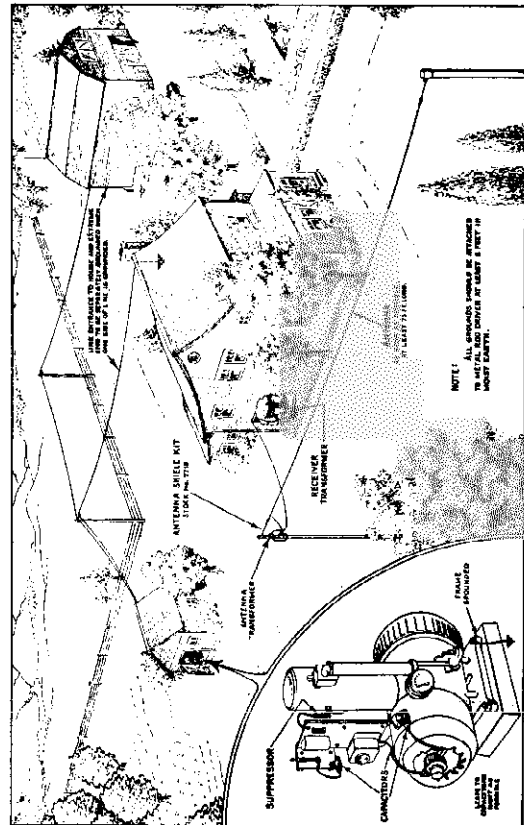

Figure 4—Typical installation showing suppression equipment and proper antenna system
I. F. Tuning Adjustments—Two transformers comprising three tuned circuits (the secondary of the second transformer is untuned) are used in the intermediate amplifier. These are tuned to 175 K. C. and the adjustment screws are accessible as shown in Figure 4. Proceed as follows:
Figure 4 shows a typical installation of the suppression equipment. This equipment is connected as follows: